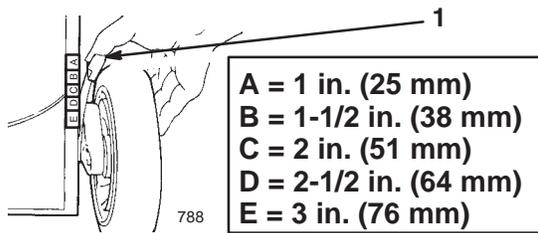

Figure 14
1. To change the cutting height, pull the cutting height lever toward the wheel and move it to the desired position (Fig. 14).